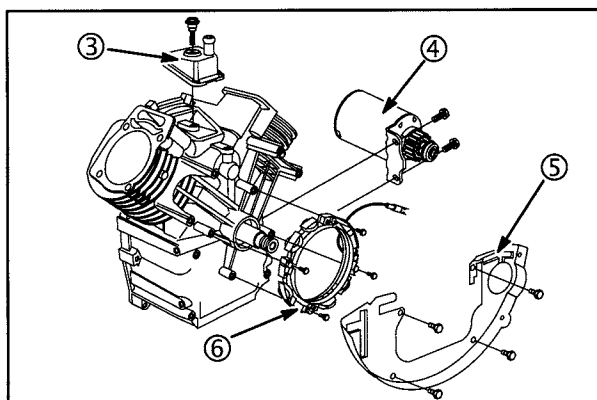

**Fig. 19**
5. Place the flywheel puller over the pilot. Back out the puller screw (5) until the flange on the puller is flush with the flange on the flywheel, **Fig. 19**.
6. Align the holes in the puller flange with the holes in the flywheel. Install the puller screws (4) and tighten until the screws are flush with the flange on the puller.